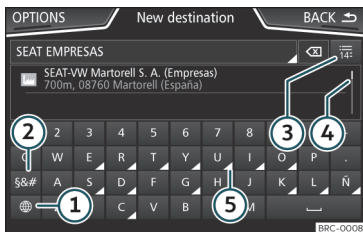

Fig. 155 Input window with on-screen keypad.
Suggestions for matching destinations appear depending on the characters entered in the input line >>> Fig. 155 ④. In the case of compound names, it is necessary to enter a space.